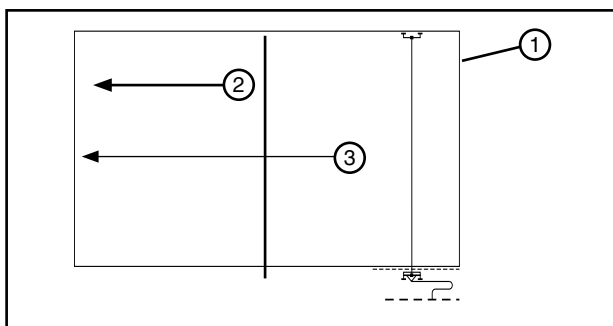

Figure 40-4 1. Field
2. Reverse the system direction, set the percentage timer, and run the system wet back to the original end of the field. See Figure 40-4.